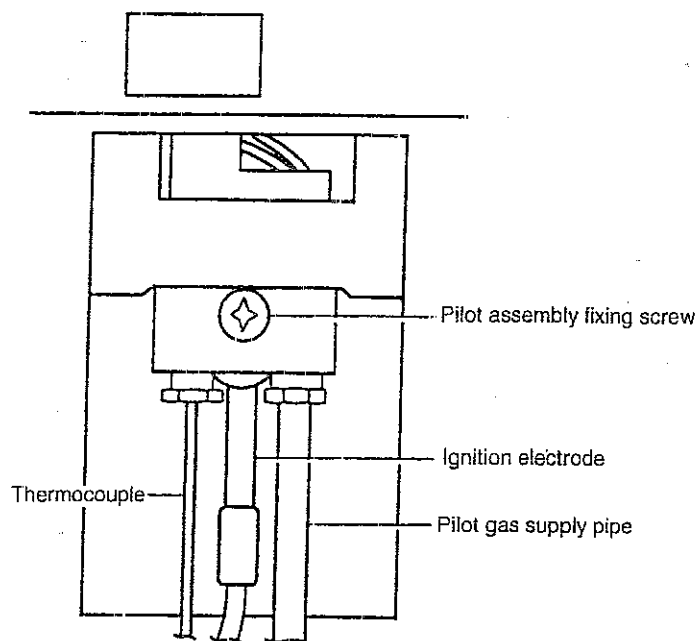

Fig. 34
- f) Remove the single pilot assembly fixing screw (fig. 34). Pull pilot assembly downwards